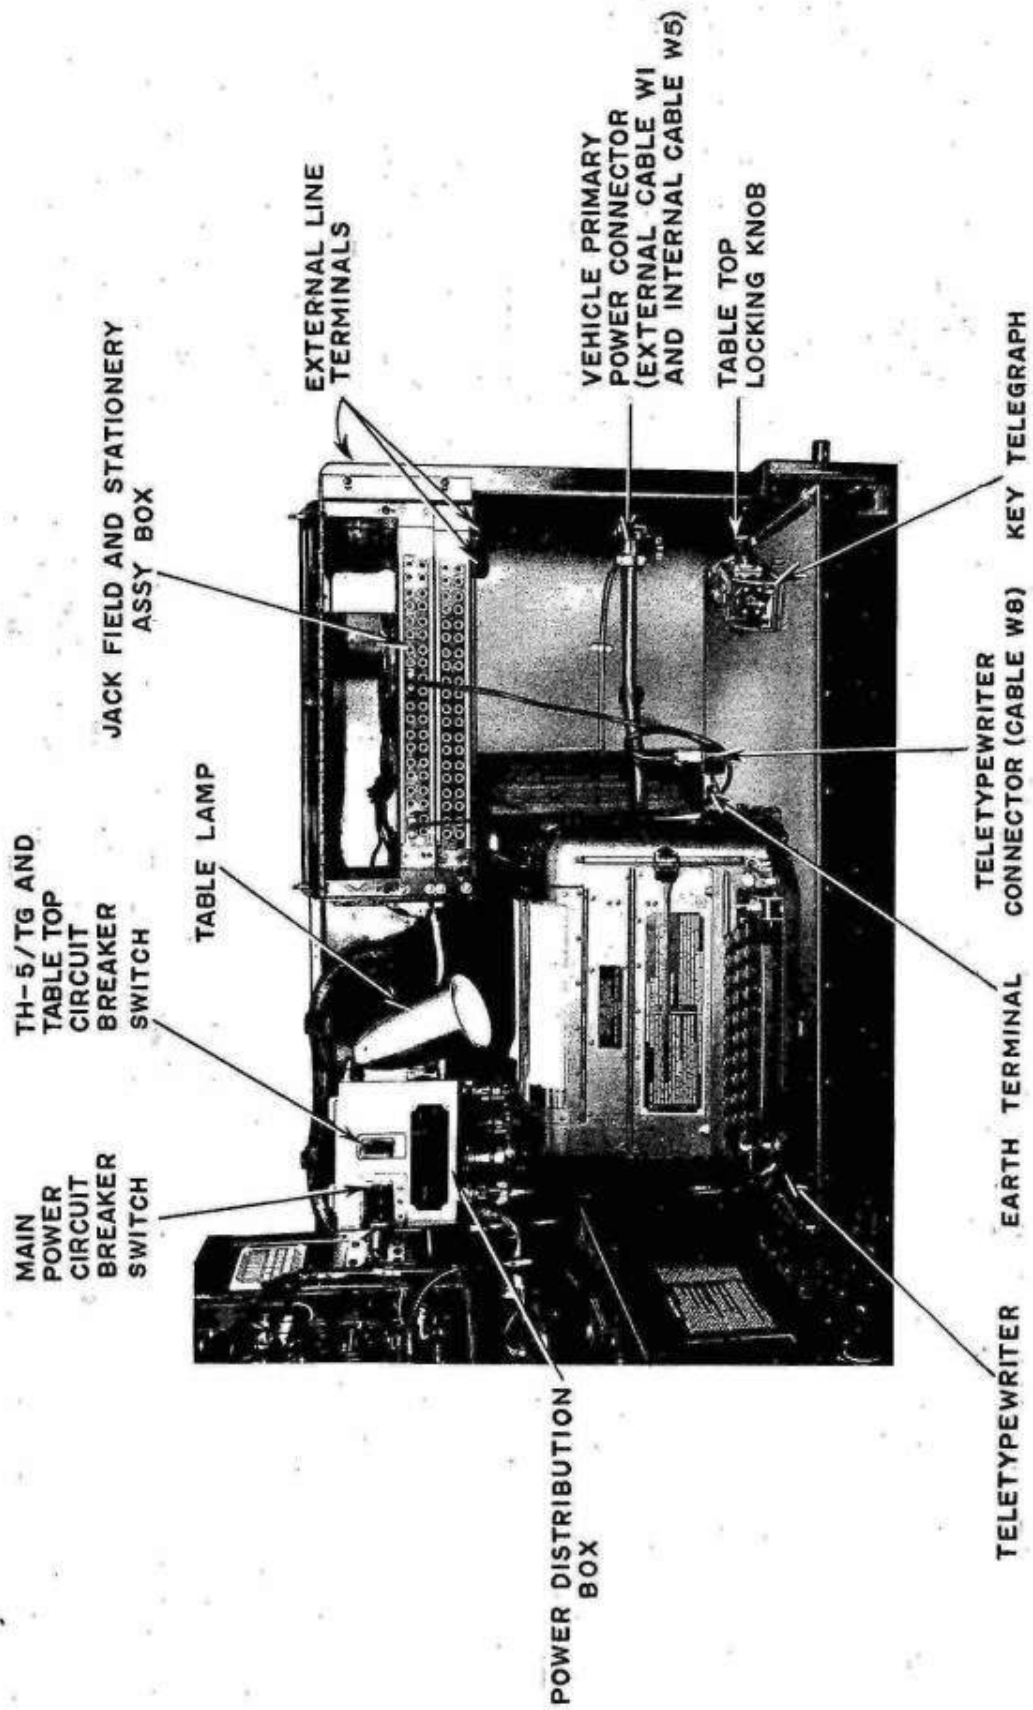

FIG 16 - TABLE TOP AND ADJACENT EQUIPMENT
85. This morse key is mounted on the sliding table top as shown in Fig 16. It provides facilities for hand speed morse signalling on the HF set. Two screw adjusters enable adjustment of key tension and gap. The key can be pivoted to the left to adjust the keying position.
92. The sliding table top carries the teletypewriter and the morse key. A table lamp is mounted on the left end of the Patching Panel case. To adjust the table top depress the locking knob (Fig 16) and slide the table forwards.
97. The wiring loom of the installation is terminated in the patching panel. All circuits are normally "through" as shown on the block diagram, Fig 18. The assembly is located over the sliding table top (see also Fig 16).
98. Desk lamp, 'Companion', type BGE D42 is fitted to the forward end of the Patching Panel case (see Fig 16).